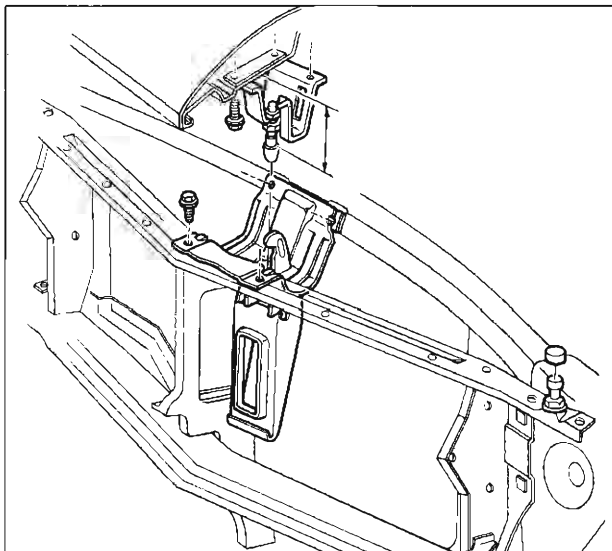

Fig. 13—Hood Catch, Lock Plate and Bumper
### HOOD CATCH (FIG. 13)
2. Remove two bolts from the lock catch to the radiator support (See Figure 13).
(SEE FIG. 13)****Removal and Installation**